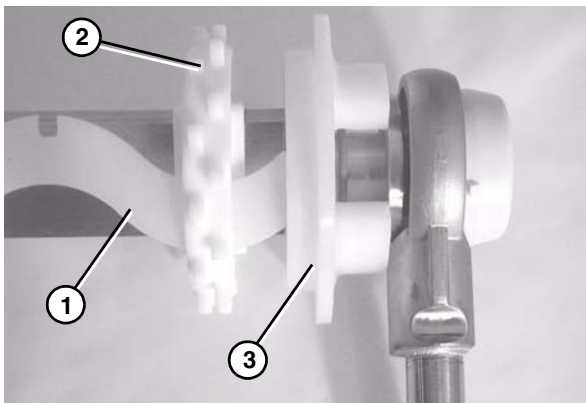

Figure 76
3. Insert the sprocket alignment bar (**Figure 76, item 1**) into the first sprocket (**Figure 76, item 2**) resting it up against the flanged puck (**Figure 76, item 3**). Position the first sprocket with the notch in the sprocket alignment bar.